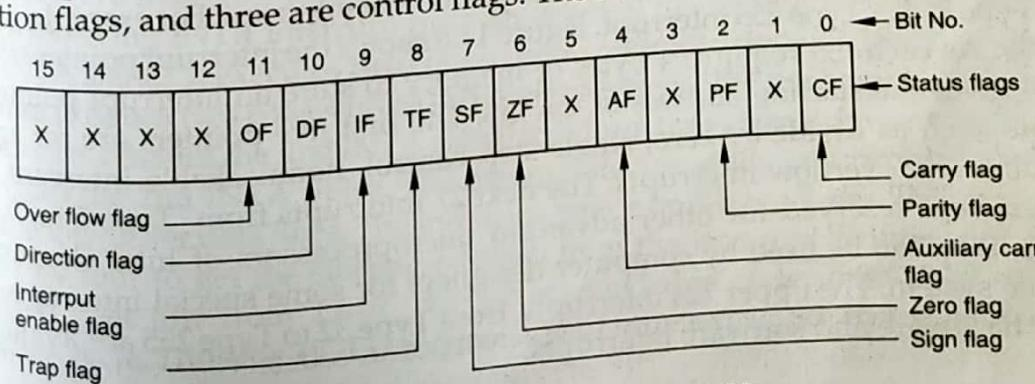

Fig. 11.5 Status Flags of Intel 8086
**Instruction Pointer (IP).** The instruction pointer in the 8086 microprocessor acts as a program counter. It points to the address of the next instruction to be executed. Its content is automatically incremented when the execution of a program proceeds further. The content of the instruction pointer (IP) and the content of the code segment register (CS) are used to compute the memory address of the instruction code to be fetched. This is done during instruction fetch operation.
**Status Register.** The 8086 contains a 16-bit status register. It is also called flag register or program status word (PSW). There are 9 status flags as shown in Fig. 11.5. Seven bit positions of the status register remain unused. Out of nine flags 6 are condition flags, and three are control flags. The six condition flags are: carry, auxiliary